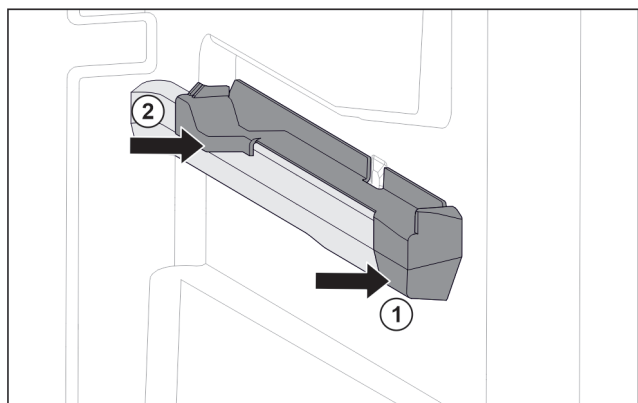

Fig. 99 Attachment on the right moulded rib
- ▶ Position attachment on moulded rib at the front. Fig. 99 (1)
- ▶ Press on attachment at the back. Fig. 99 (2)